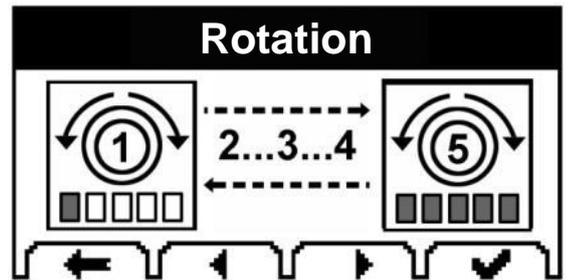

Fig. 5.11
- Select the reverse spin option (Fig. 5.11).